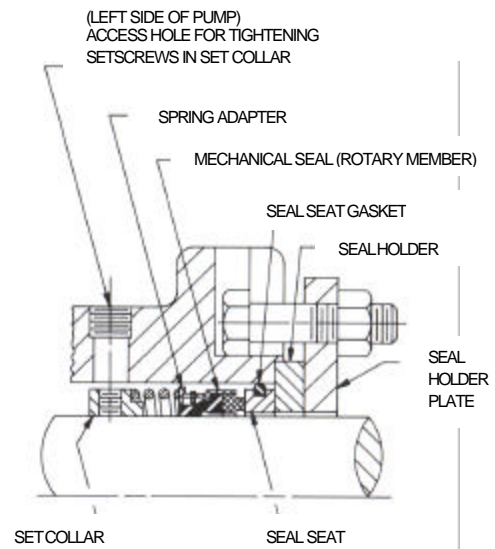

FIGURE 15
4. Rotate shaft so that the two setscrews for set collar can be seen through the seal access hole on left side of pump (viewed from shaft end). These two setscrews must be loosened before shaft can be removed from pump. Refer to Figure 15.
6. Place seal set collar on shaft, push into seal chamber so centerline of setscrew coincides with centerline of access hole on left side of bracket (viewed from shaft end.) Refer to Figure 15. Tighten setscrews to secure set collar to shaft.